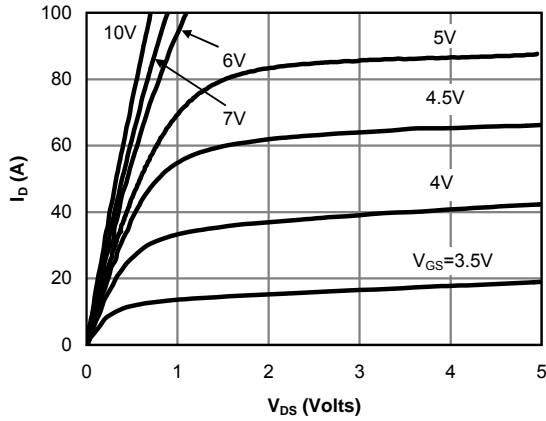

Figure 1: On-Region Characteristics (Note E)
E. The static characteristics in Figures 1 to 6 are obtained using  $<300\mu\text{s}$  pulses, duty cycle 0.5% max.